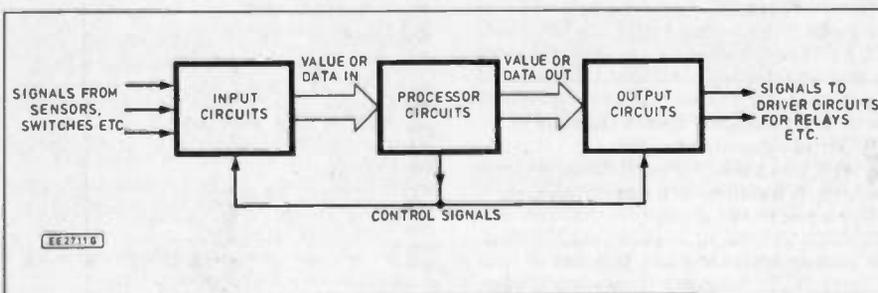
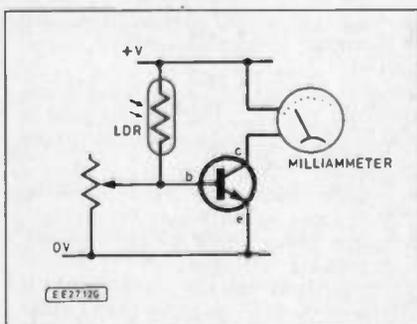

Fig. 11.2. Arrangement for control system. (In this case no feedback is shown.) It could represent a digital or an analogue system
Fig. 11.3. A very simple "light meter" arrangement (analogue).
**I** Good. And no doubt you can think of others. Well, as with all control systems, there are INPUTS and there are OUTPUTS, from sensors and into drivers, with the processing circuit between (Fig. 11.2). We've already rigged up such systems using all analogue circuits with a transistor as an amplifier (doing the "processing"). An LDR as input sensor, with a milliammeter as output device would form a light-level meter, wouldn't it (Fig. 11.3)?